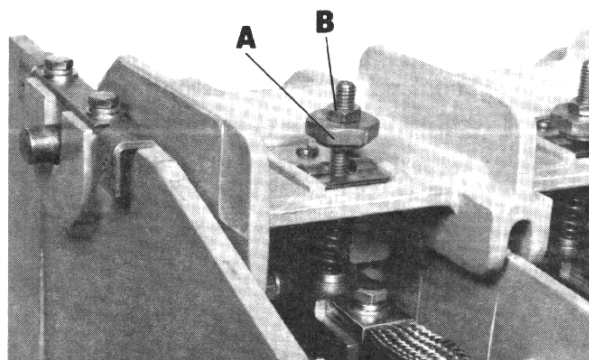

FIGURE 13
- 6) Install gap adjustment nut (A) on top of bottle assembly and turn nut until it rests about halfway down the shaft (See Figure 13). Install lock nut (B) until it rests above the adjusting nut, but not touching the adjusting nut.